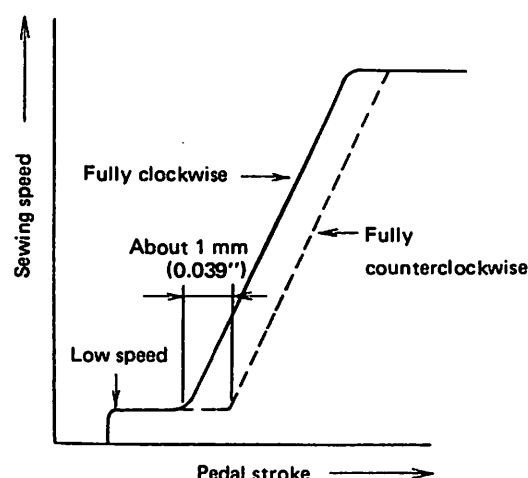
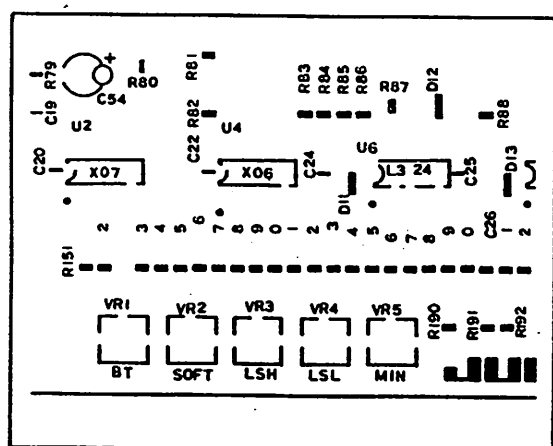

Fig. 3-10
Fig. 3-11
As shown in Fig. 3-10, the accelerating point can be adjusted about 1 mm (0.039"). When VR5 (MIN) shown in Fig. 3-11 is turned fully clockwise, the low speed stroke shown by the solid line (Fig. 3-10) is shortened, resulting in an earlier accelerating timing. When VR5 is turned counterclockwise, the low speed stroke is lengthened as shown by the broken line, resulting in a later accelerating timing. (Normally, VR5 is turned fully clockwise before shipment.)
- In the conventional sewing machine, thread trimming speed determines the low speed. In this machine, however, only the low speed which is controlled by depressing the front part of the pedal can be increased using VR3 (LSH) in Fig. 3-11 without changing the thread trimming speed. Turn the dial clockwise to increase the low speed of the sewing machine, or counterclockwise to decrease it. The adjustable range is from the thread trimming speed (LSL) to approximately 200 s.p.m. (Normally, the dial has been turned fully counterclockwise at the time of delivery.)